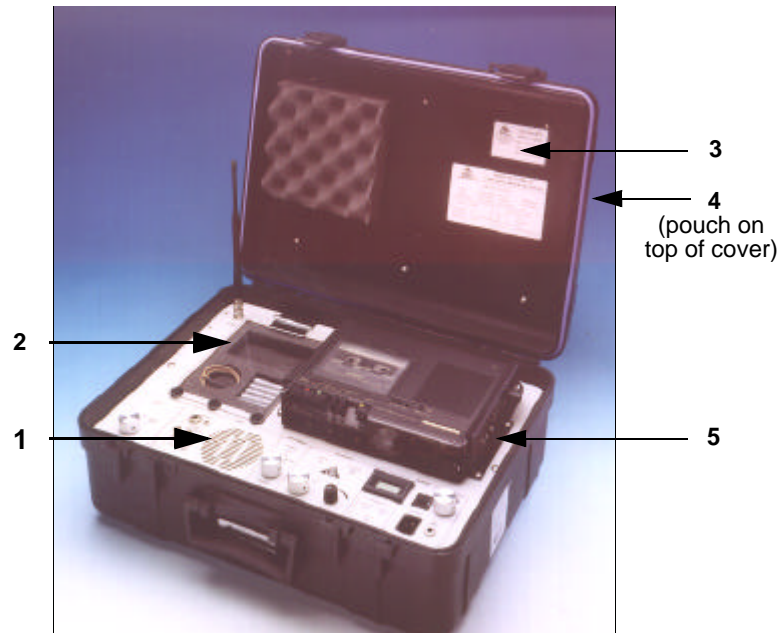

Figure 2 Principal Components in the Carrying Case
The system is packaged in a rugged carrying case (Figure 2) and in a fabric accessory pouch mounted on the outside of the case cover.
Both the 3 dBi omni-directional magnetic mount antenna (Figure 2 on page 4) and the 11 dBi high gain patch antenna are attached at the **RX ANTENNA BNC** connector.
2. The TX unit is labelled with its frequency. Use the label on the inside of the DSS-900-KT case cover (see Figure 2 on page 4) to determine the channel number corresponding to the TX frequency.